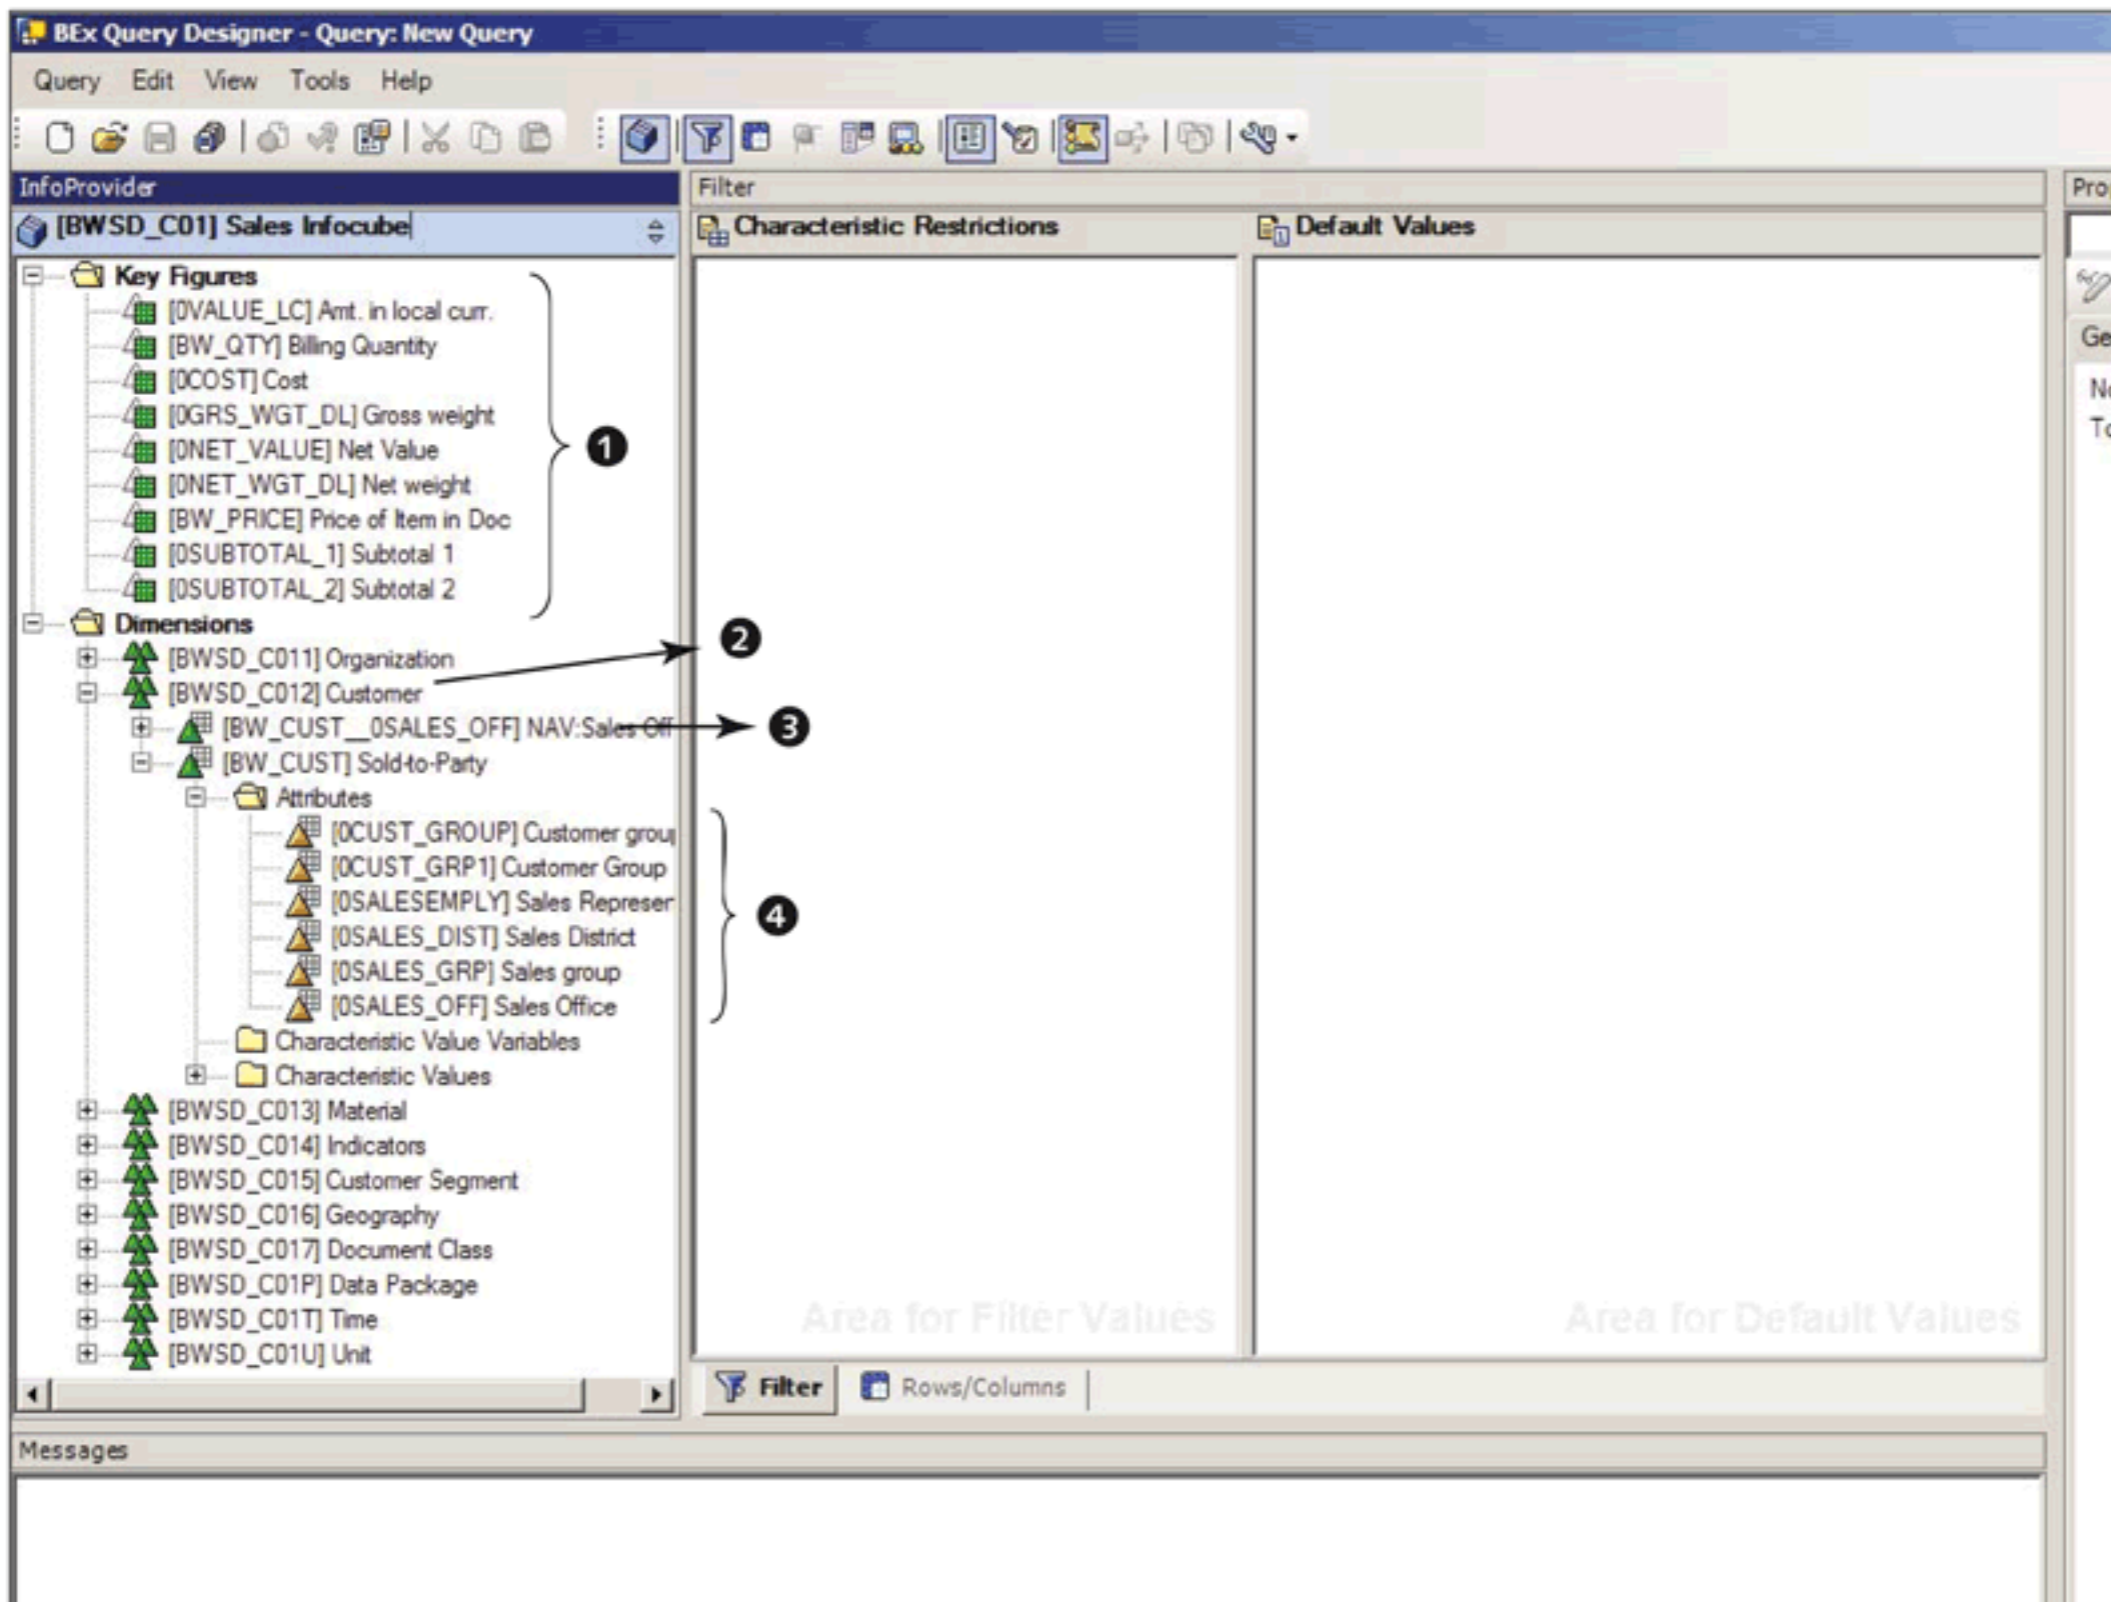

Figure 9.8 InfoProvider Definition in BEx Query Designer
The definition of the selected InfoProvider becomes visible in the INFOPROVIDER area of BEx Query Designer (see Figure 9.8).
You can see all of the key figures (1 of Figure 9.8) and characteristics grouped within their respective dimensions (2) in BEx Query Designer. The master data navigation attributes, which are selected in the InfoCube definition, appear in BEx Query Designer, grouped with the master data characteristic in the same dimension (3). You can also see additional information about the characteristics of the InfoCube, such as the attributes (if the characteristic is master data), variables, and values (4).